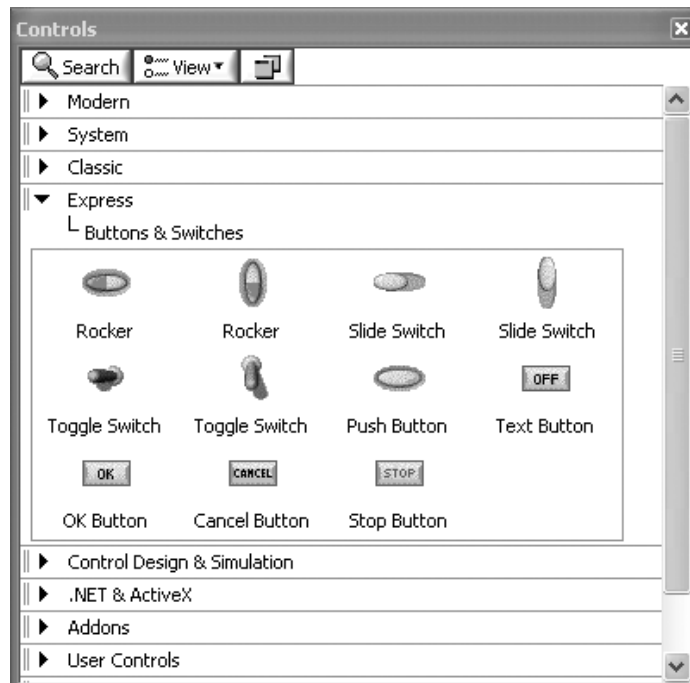

Figure 1.15
2. Click on the Buttons group within the Express group. This will cause all of the various types of buttons and switches to be displayed, as illustrated in Figure 1.15.